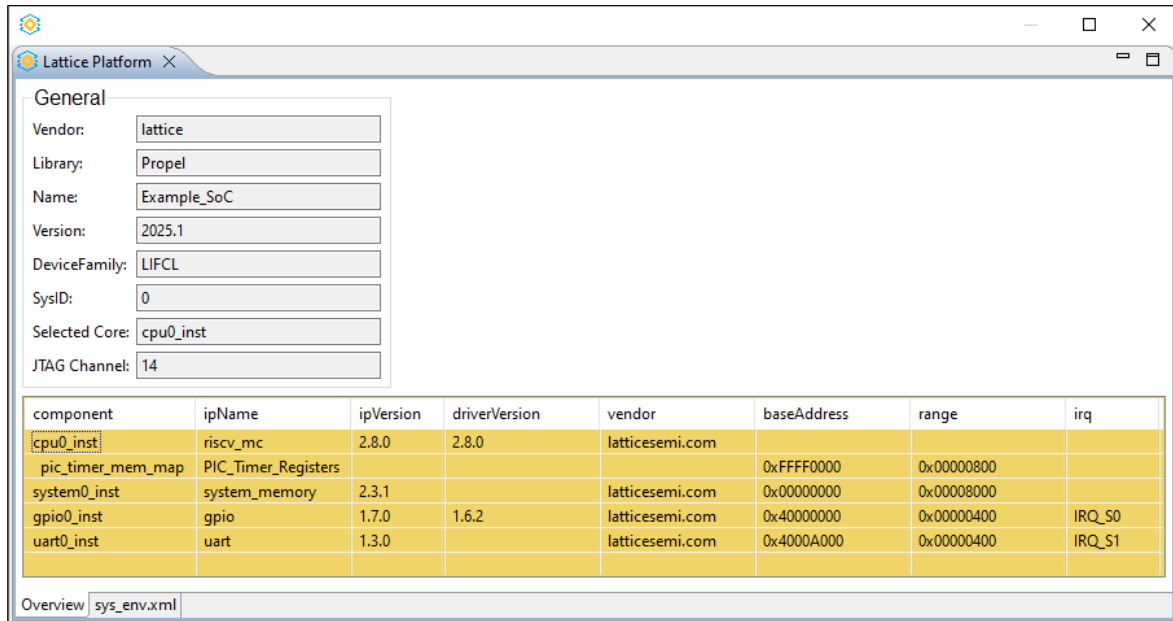

Figure 3.32. Lattice System Platform
- Lattice System Platform: An overview of the processor platform can be displayed (Figure 3.32).